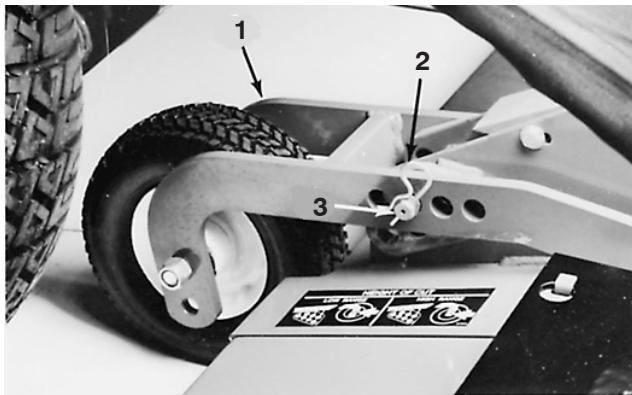

Figure 62
3. Remove hairpin cotter and clevis pins from the (2) rear castor assemblies (Fig. 62). Set the left hand clevis pin aside and insert the right hand clevis pin into the most forward holes in the castor wheel arm on the right side of the unit (Fig. 59). The castor arm and pin should be resting on top of the unit.